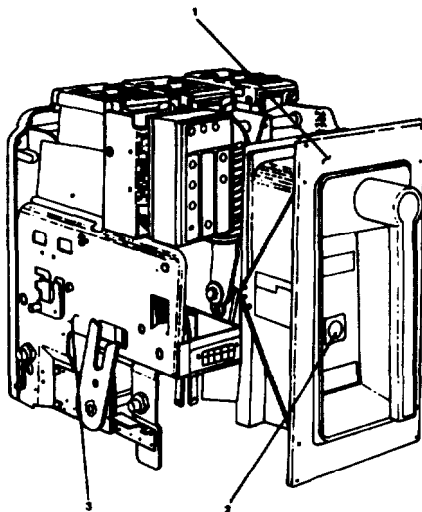

FIGURE 2-223. Circuit Breaker.
- d. Insert racking handle (7) into racking screw hole (8).
- e. Rotate racking handle (7) counterclockwise until the jackscrew comes to solid stop. Circuit breaker is now in the DISCONNECT position. Remove racking handle (7).
- f. Manually pull circuit breaker (1, FIGURE 2-223) to track travel limit (WITHDRAWN position).
- (5) Ensure racking cams on breaker are positioned for engagement with pins in compartment.
- a. Insert racking handle (7) into racking screw hole (2, FIGURE 2-223) and turn counterclockwise until jack screw comes to solid stop. Remove racking handle (7).
- b. Attach suitable lifting device and spreader rig and raise circuit breaker (1) above elevation of tracks.
- c. Slowly lower and guide circuit breaker until circuit breaker (1) mounting pins drop into track slots on substructure (3).
- e. Manually push circuit breaker (1) in until it reaches track stops (DISCONNECT position).